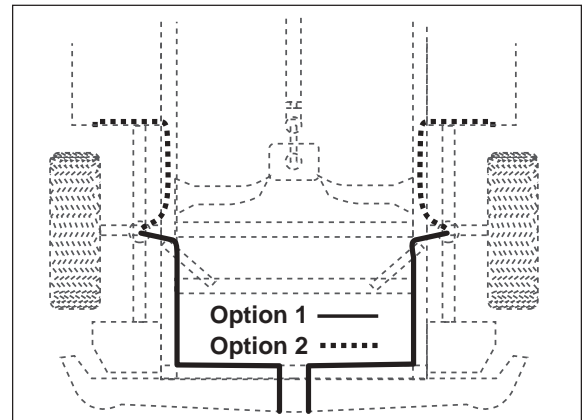

Figure 7
- Select a location for the inflation valves in the rear bumper area or rocker panel flange ensuring that each valve will be protected and accessible with an air hose (Figure 7).